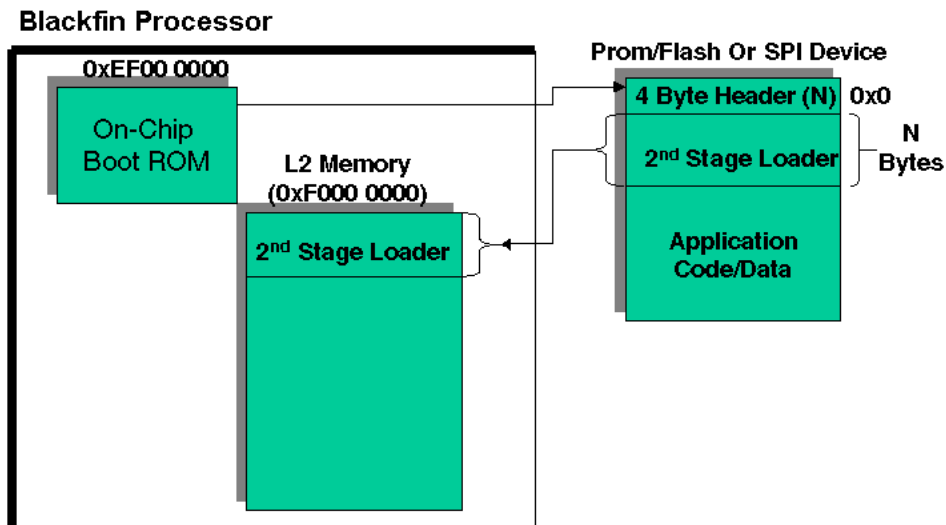

Figure 5-4. Loading the Second-Stage Loader from Boot ROM
1. Upon RESET, the On-Chip Boot ROM downloads N bytes (the second-stage loader) from external memory to address 0xF000 0000 in L2 memory (Figure 5-4).